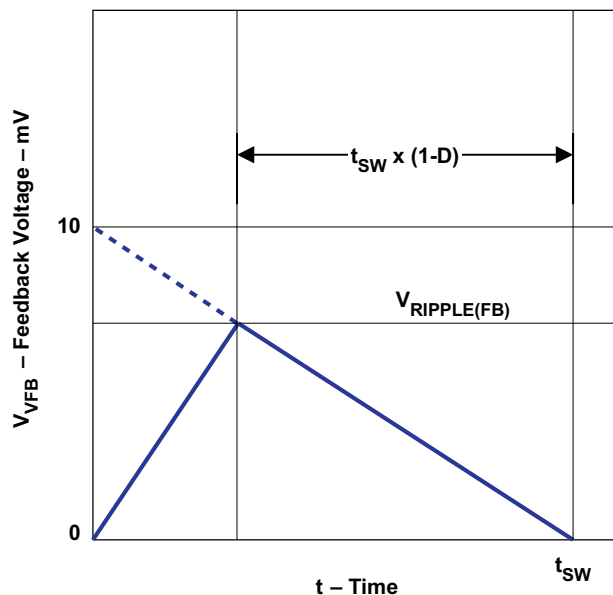

Figure 15. Ripple Voltage Down Slope
- the output ripple down slope rate is 10 mV/t_{sw} in terms of VFB terminal voltage as shown in Figure 15
- (8)